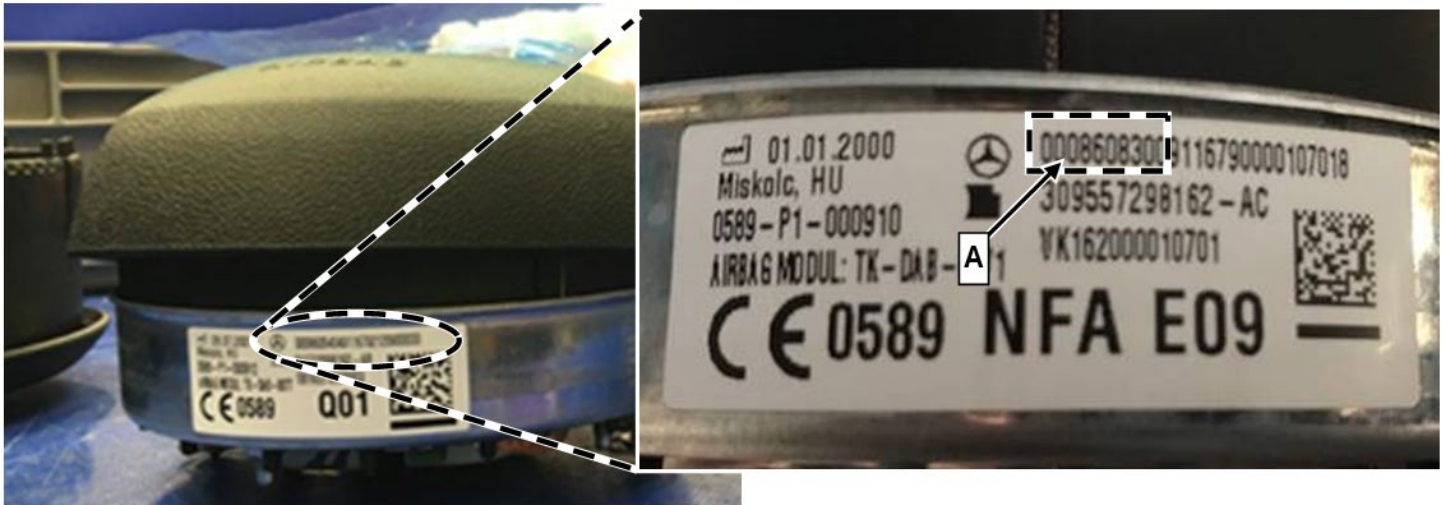

Figure 1
2. Determine part number of driver's airbag in the XENTRY Portal "parts process" and compare with the item number of the removed driver's airbag (**A, figure 1**).